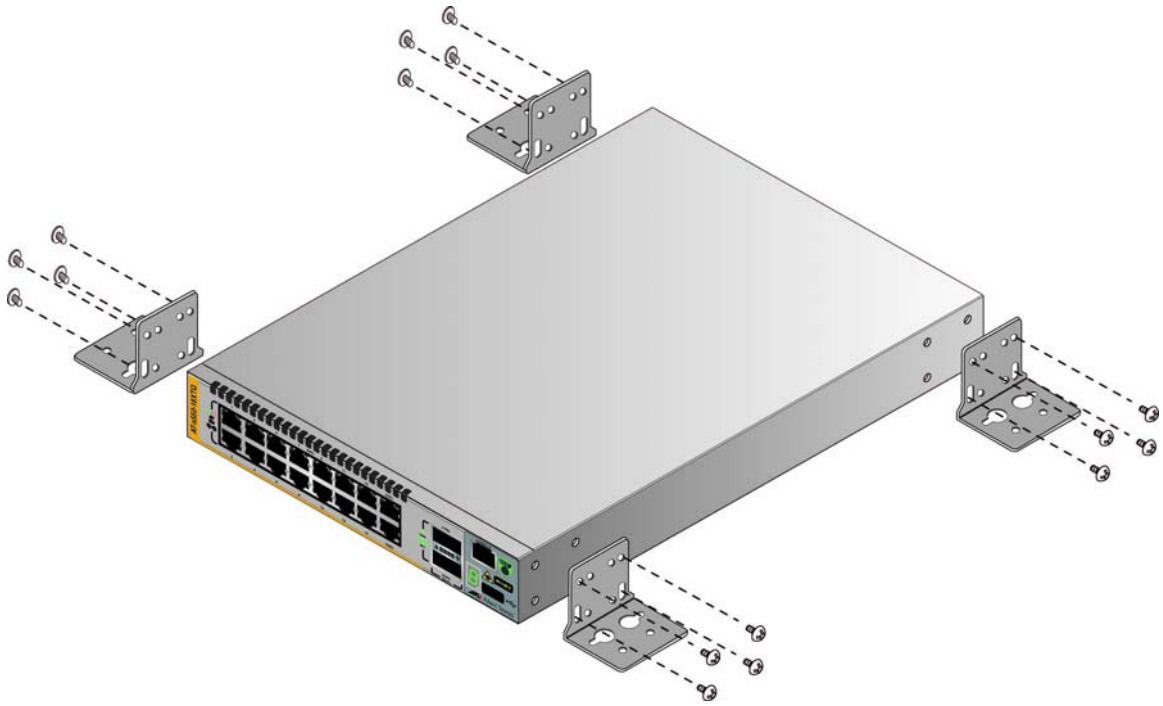

Figure 35. Installing the Wall Brackets
2. Install the four wall brackets to the sides of the unit, with the sixteen M4x6mm screws included with the switch. Refer to Figure 35 on page 71.
- Position the switch so that the front panel is either on the left or right. Refer to Figure 35. You may not install the switch with the front panel facing up or down.